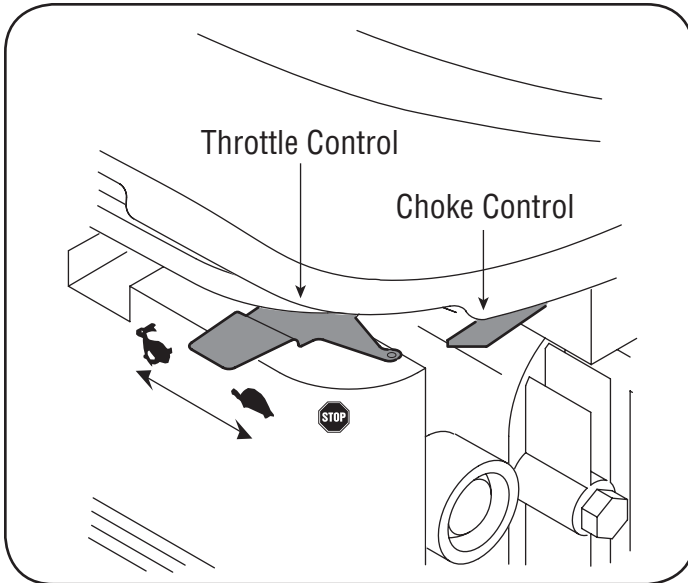

Figure 11
5. Move throttle control to START/RUN (Rabbit)  position. See Figure 11.
6. Move the choke control  toward the throttle control to choke the engine's carburetor. (A warm engine may not require choking.) See Figure 11.